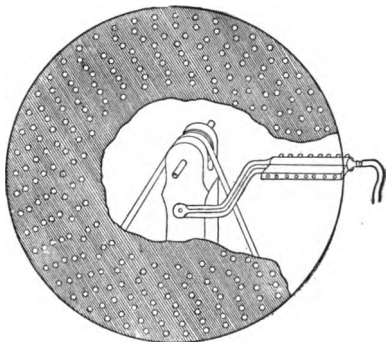

FIG. 132
**169. Siren Disc.** That pitch rises with increased frequency of vibration may also be shown by the so-called Siren Disc (Fig. 132). In this there are eight circles of holes. (In this figure part of the disc is cut away to show the means of rotation and the impulse attachment.) The outer circle has 48 holes, the next has 45, then 40, 36, 32, 30, 27, 24, respectively. The impulse attachment consists of a piece of metal fastened to a bellows or other source of compressed air. By means of thumb